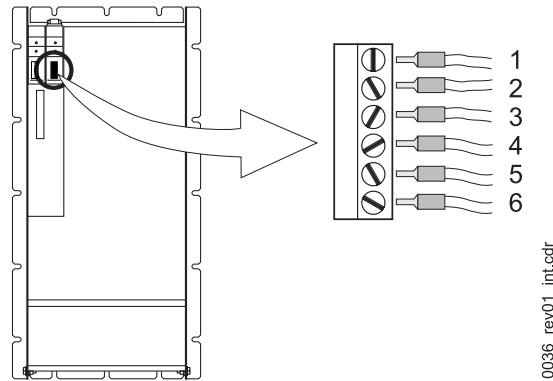

Figure 17: Control terminal X98
2) Position, see Figure 17 on page 51.